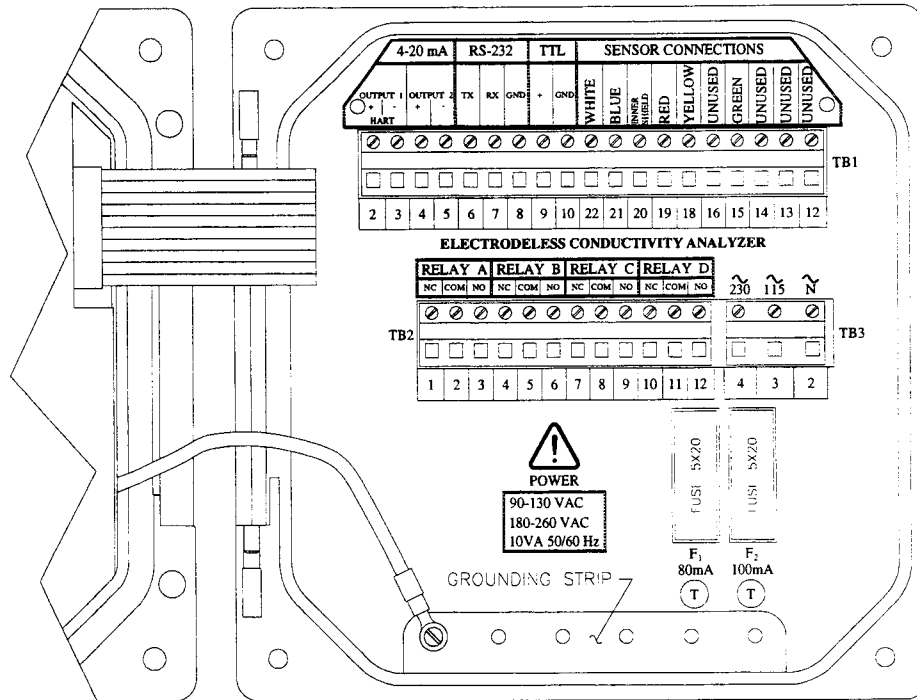

FIGURE 2-3 Analyzer Terminal Block Designations for Analyzers with "B" Prefix Serial Numbers
To access terminal blocks for electrical connections, open the left-hinged enclosure door by unscrewing the four fasteners. Figure 2-3 or 2-4 shows the terminal block arrangement and terminal designations inside the analyzer.
- The grounding strip at bottom of case (5 open holes, Fig. 2-3) for analyzers with "B" prefix serial numbers.